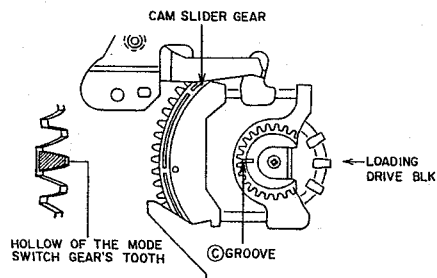

Fig. 3-15
- 2) Attach the MODE SELECT SWITCH to the LOADING DRIVE BLK and align the hollow of the gear's tooth (reverse side of the Ⓞ mark) with the Ⓞ groove of the CAM SLIDER GEAR as shown in Fig. 3-15.